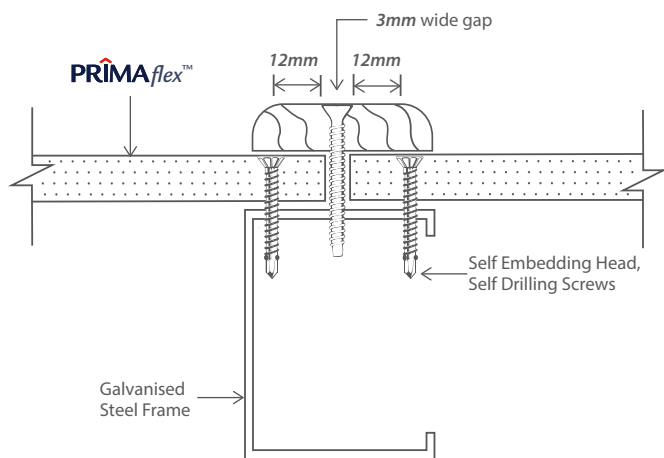

Figure 2.7: Timber Joint
4. Timber batten may be use to cover the joint as well as to serve as a feature. Refer **Figure 2.7**.